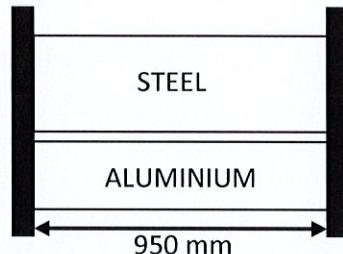

Figure 1 (c)/ Rajah 1 (c)
- CLO1 (c) Figure 1(c) below shows a compound bar rigidly mounted at both end. Cross sectional area for steel and aluminium bar are  $400 \text{ mm}^2$  and  $335 \text{ mm}^2$ . If the temperature is dropped by  $23^\circ\text{C}$ . Calculate: